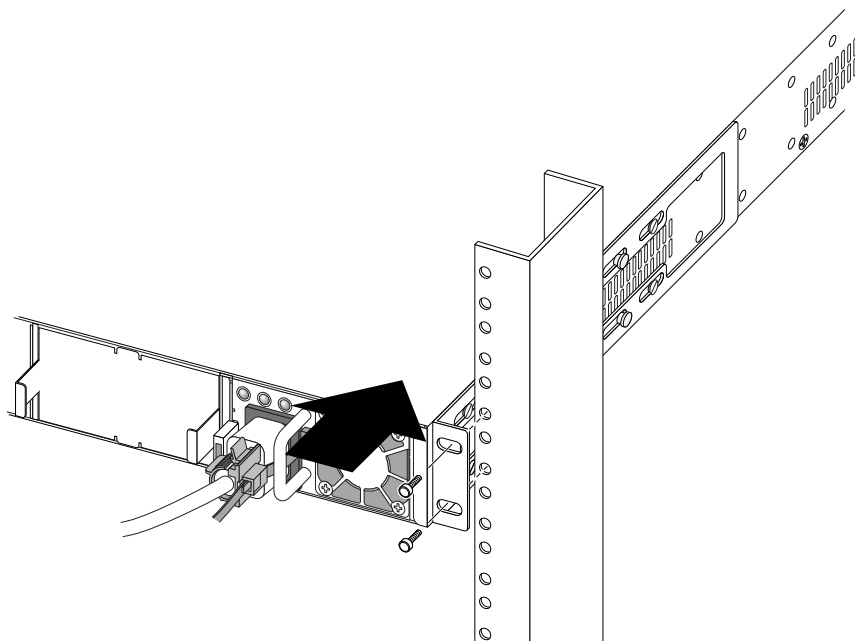

Figure 207: Sliding the EPS-C2 into the Rack and Securing it
4. Slide the EPS-C2 into the rack and secure it using appropriate rack-mount screws. See Figure 207.